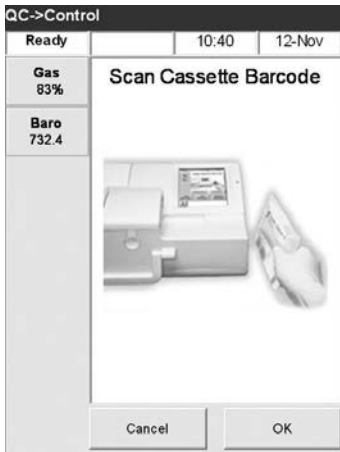

Fig. 4-17 Scan Bar Code
6. Scan the bar-coded strip on the OPTI Cassette package by holding it 2-3 inches (5-8 cm) from the bar code scanner located on the bottom right-hand corner of the analyzer to automatically record the lot and calibration information for the specific cassette (Fig. 4-17).